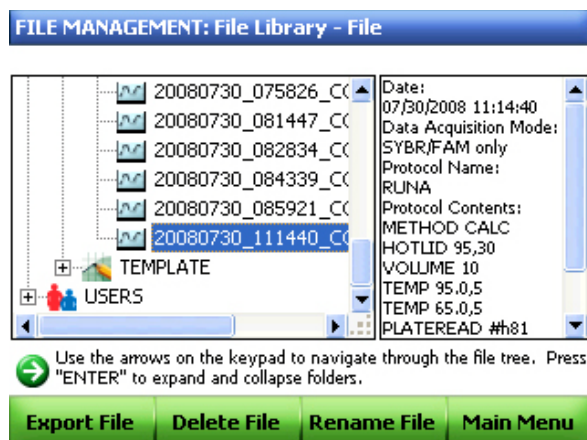

Figure 47. Exporting stand-alone run data to a USB key.
4. Press the **Export File** (F1) button to export a copy of the run data (.zpcr) to the USB key, as shown in Figure 47.